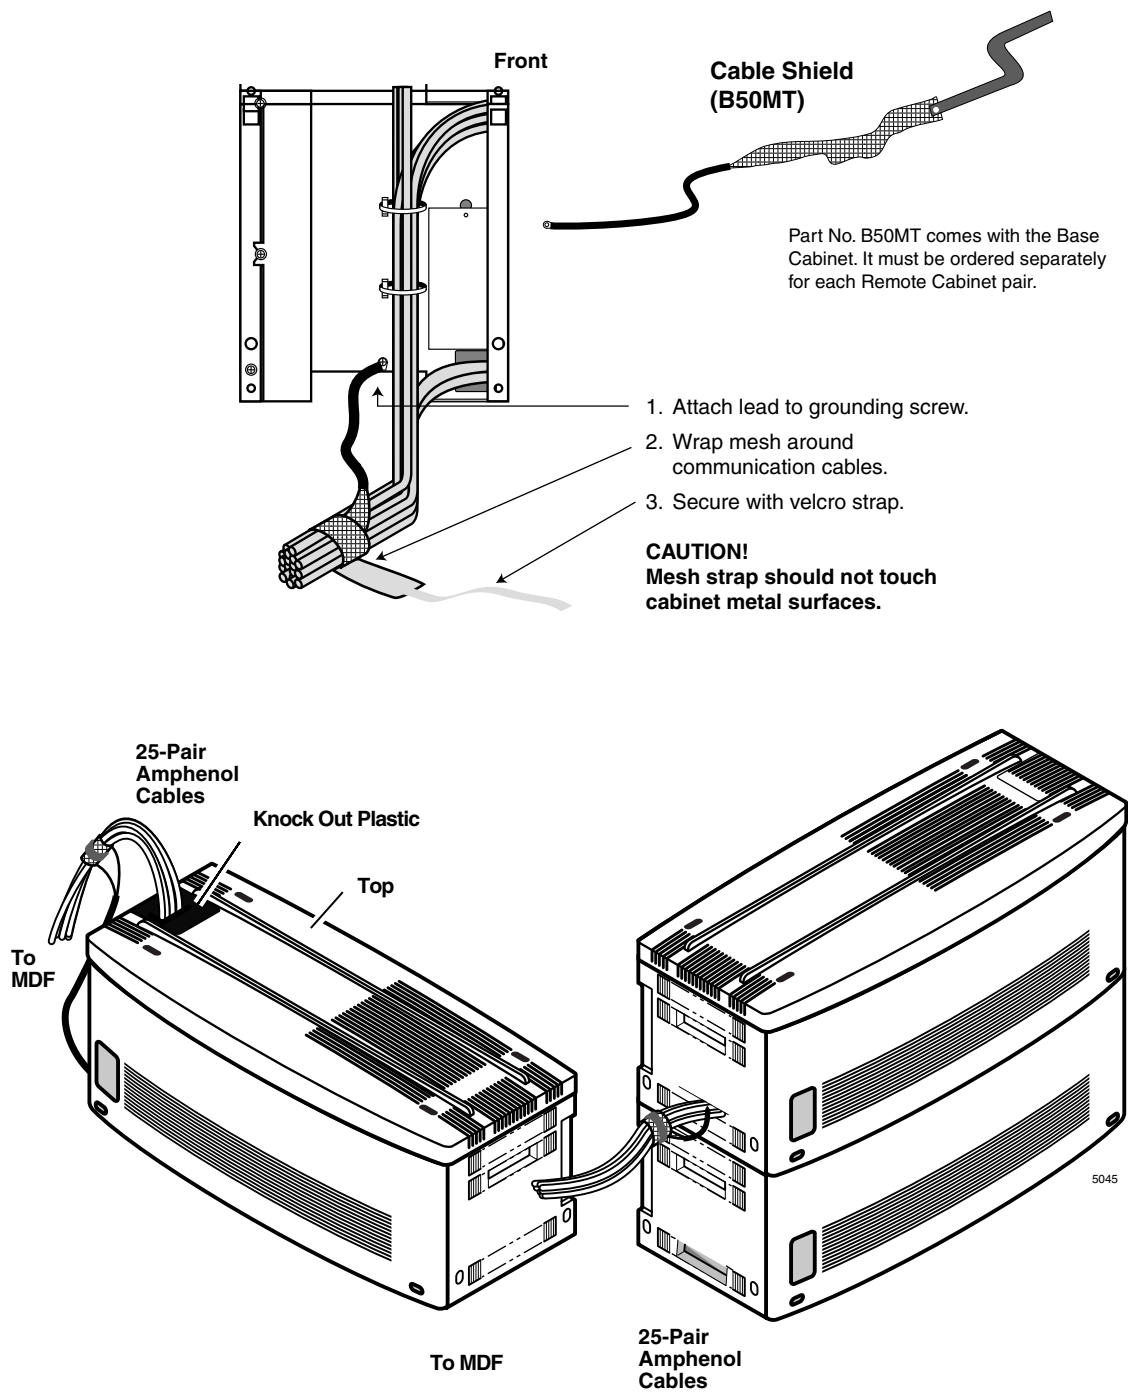

Figure 3-10 Cabinet Amphenol Cables
2. Wrap the cables in with the mesh tie. The purpose of the wrap is to shield the cables from EMI/RFI effects. See Figure 3-10.
Wrap the cable mesh shield (part No. B50MT) around the 25-pair communication cables that carry stations over tip and ring, per Figure 3-10.